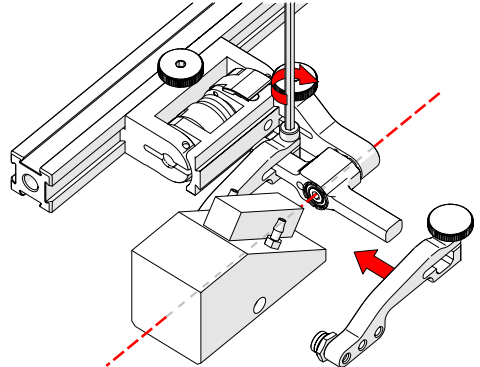

Fig. 67 - Place wedge
7. Position the wedge on the inner probe holder arm (Fig. 67).